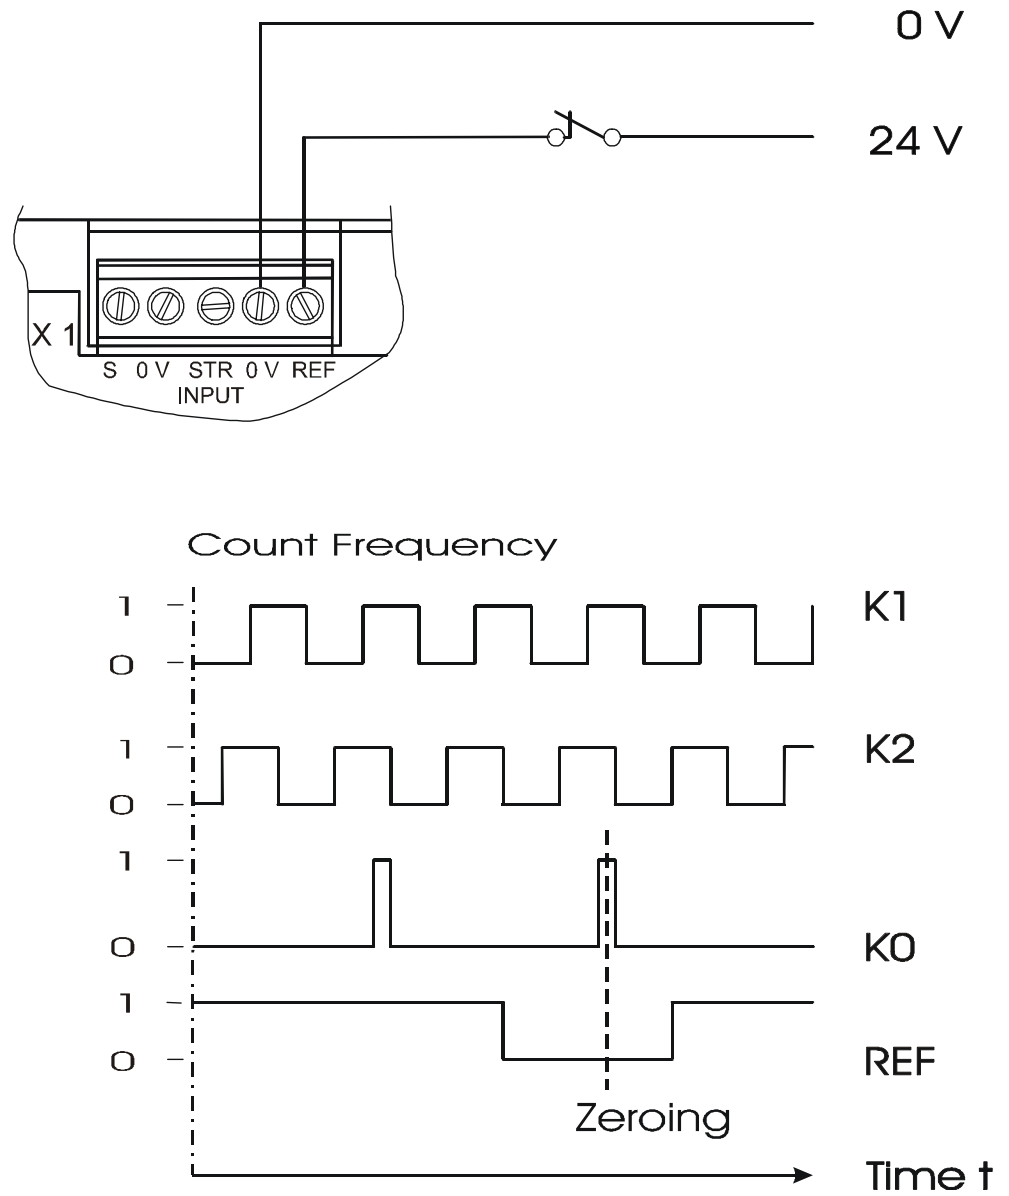

Fig. 50: Pulse sequence of counting signals
- For initialisation through hardware the input of terminal REF is to be set to zero (REF = 0) Through its 15-pin SUB-D connector, the incremental encoder supplies $K0 = 1$ (refer to fig. 50: "Pulse sequence of counting signals", page 206).